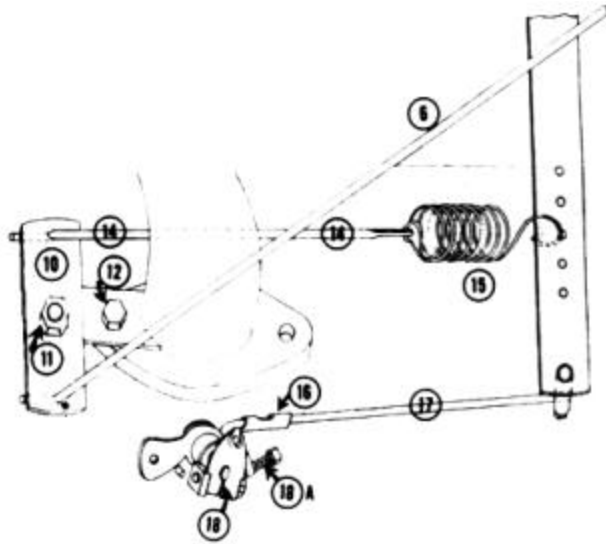

Figure 3
9. Remove the Screw (12 in Figure 3), from the Manifold-Carburetor Assembly
- 10, Assemble the Governor Control Bracket and Arm (10 and 12 in Figure 3) as shown, using the 191-S Pivot Screw and 242-N Pivot Screw Nut (11 in Figure 3).
11. Mount on the Manifold by using the same Screw you took from the Manifold-Carburetor Assembly. The Governor Control Arm should move easily with very light pressure, adjust loose tension with the 242-N Pivot Screw Nut, (11 in Figure 3).
12. Insert the Governor Control Link (14 in Figure 3) into the hole in the Governor Control Arm, extending it towards the Governor Lever.
13. Mount Bellcrank (18 in Figure 3) (furnished with Governor Kit) to Carburetor, discarding old Bellcrank. **MOUNT SO THERE IS EQUAL TRAVEL BETWEEN A VERTICAL CENTER LINE AND WIDE OPEN, AND A VERTICAL CENTER LINE AND CLOSED. THEN, JUST BARELY "CRACK" THE BELLCRANK AWAY FROM THE WIDE OPEN STOP WITH A .020" FEELER GAUGE.** Tighten Bellcrank Screw tightly (Figure 4).
14. Hold the Bellcrank in the wide open position as (see Figure 4), and the Governor Lever at its stop toward the Tractor. Fit Throttle Linkage Rod (17 in Figure 3) from Bellcrank to the end of the Governor Lever. This Rod must fit freely and firmly in place without binding or strain. Attach with the small clip provided, and tighten down screw in Swivel Pin on Governor Lever. **TEST THIS LINKAGE AFTER IT IS IN PLACE BY MOVING THROUGH IT'S ENTIRE TRAVEL.**
15. Insert the Governor Spring (15 in Figure 3) into the **CENTER** hole in the Governor Lever and hook Spring into the slot in the Governor Control Link.
19. Start the Tractor. With Governor Throttle closed, adjust the idle screw (18-A in Figure 3) until the Tractor is idling satisfactorily, being sure idle screw contacts the stop while this is being done.